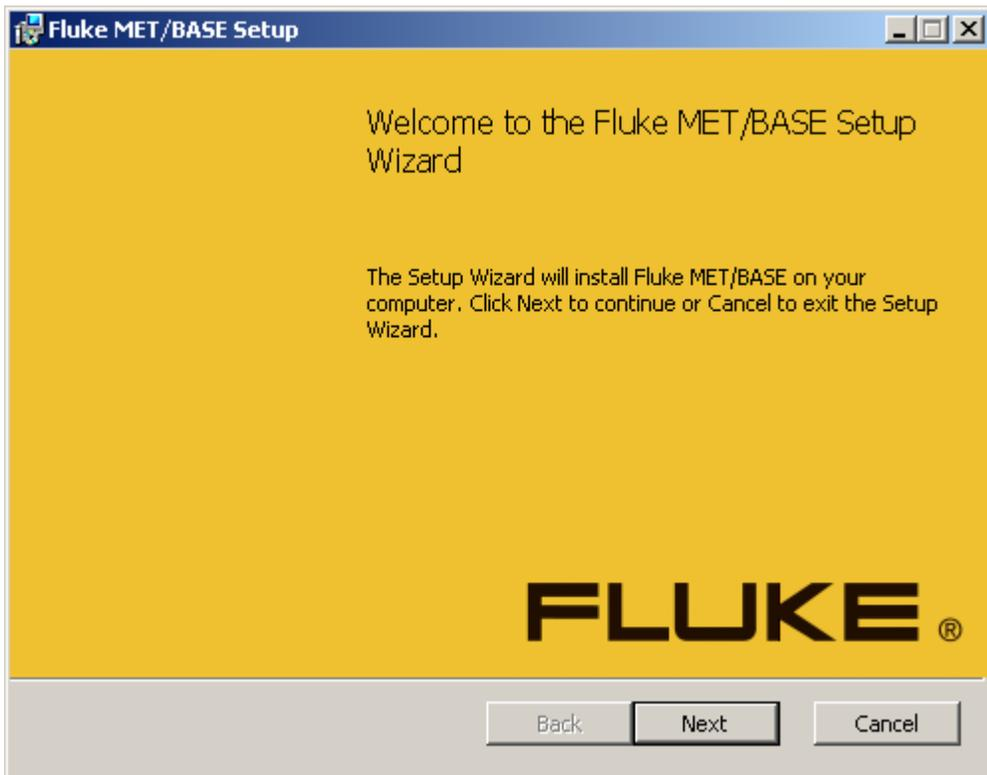

Figure 5. MET/BASE Setup Wizard
1. When the **Welcome** dialog displays (see Figure 5), click **Next** to proceed.